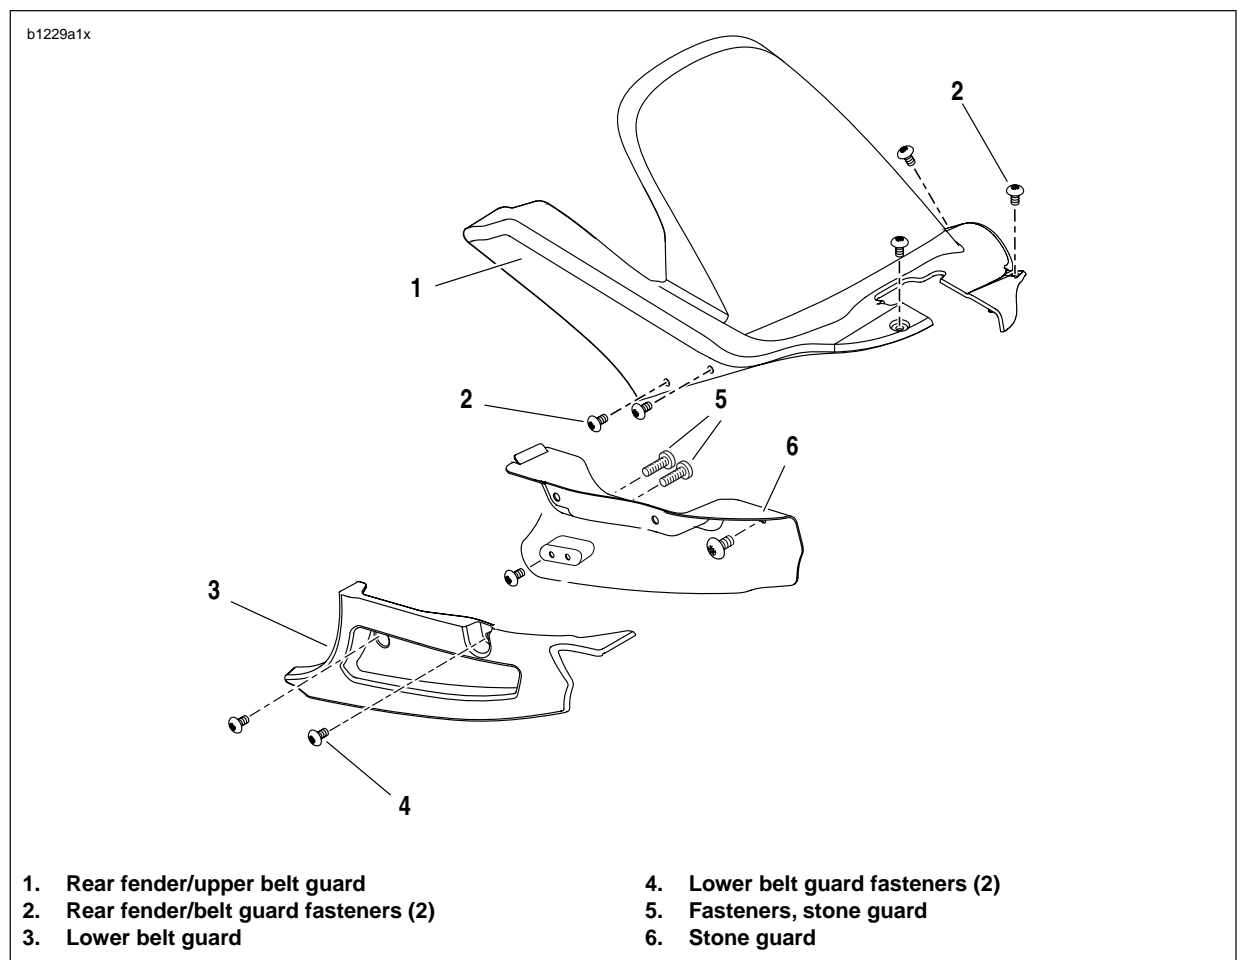

Figure 2-123. Belt Guard Assembly
4. See Figure 2-123. Remove rear fender/upper belt guard (1) by removing fasteners from swingarm.
5. Remove lower belt guard (3) by removing the two fasteners (4) located on the outside of the lower belt guard.
6. Once the lower belt guard has been removed, remove the metal stone guard (5).
1. See Figure 2-123. Install rear fender/belt guard (1) to swingarm. Tighten fasteners to 12-36 **in-lbs** (1-4 Nm).
3. Install lower belt guard (3) and tighten fasteners (4) to 12-36 **in-lbs** (1-4 Nm).